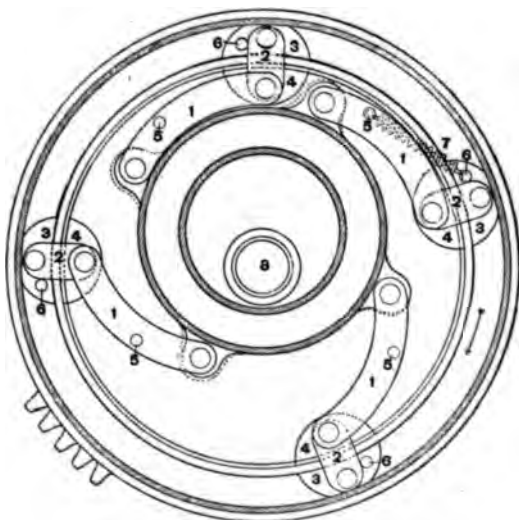
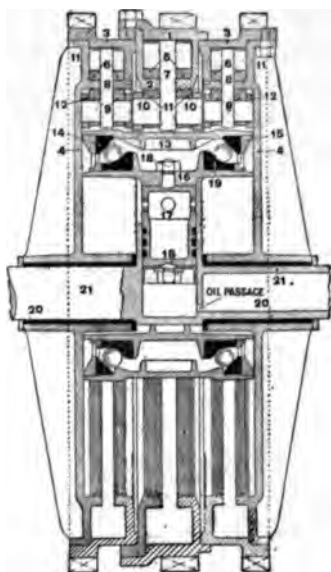

FIG. 7. ELEVATION OF THE HUTTON GEAR
FIG. 8. SECTION OF THE HUTTON GEAR.
A very important feature of the Hutton car is the infinitely variable speed gear (Fig. 6), by means of which all the disadvantages of the ordinary fixed gears are eliminated. Figs. 7 and 9 show a section through the shaft, eccentric sheave, and strap. A cross section of these parts is shown in Fig. 8, Nos.
upon which the sheave slides. In Fig. 7 the eccentric strap is shown with links (1) attached to the lugs. The other ends of the links are attached to toggles (2), which form a connection between shoes (3) and (4) operating on either side of rings provided on the rotating portion of the gear. The effect of this toggle movement is that a species of free-wheel construction is obtained, so that when the links move in one direction, the shoes are caused to grip the rings on the periphery of the gear and the whole rotates; while when they move in